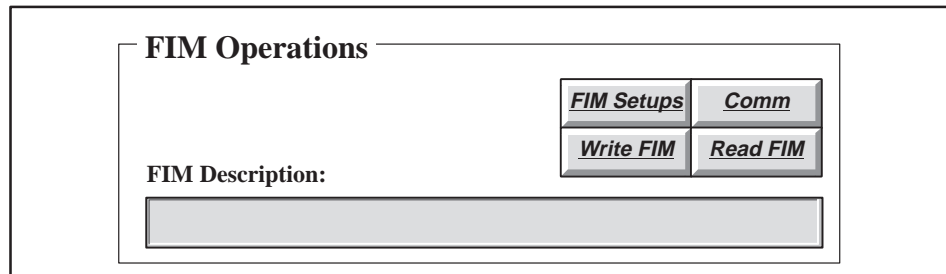

Figure 6-5 FIM Operations Area
4. Select the Comm button in the FIM Operations area. (See Figure 6-5.)